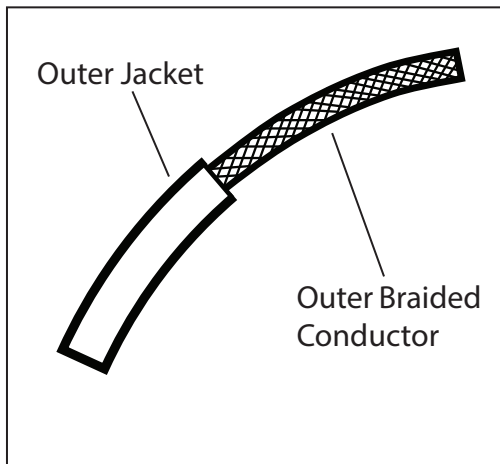

Fig. 1
1. Shut off power to the outlet box (A).
2. Determine the height at which the fixture (F) is to be hung. Insert the steel cable (B) through the lock (C) and adjust to the desired length. To shorten the cable, push the cable up and it will be locked automatically. To lengthen the cable, lift up on the cable and push up on the lock. While keeping the lock depressed, lower the cable to the desired length. Release the lock to set.
3. Use the screwdriver to loosen the slotted set screw (G). Adjust height of cord. Tighten the set screw to set. Reserve extra cord in the canopy (E).
4. Slide cord rings (D) as close to canopy (E) and fixture (F) as possible (Figure 1).
6. Attach the mounting plate (J) to the outlet box (A), secure with outlet box screws (K).
- a. Connect the LED driver's (H) live wire (black) to the live outlet box wire.
- b. Connect the LED driver's (H) neutral wire (white) to the neutral outlet box wire.
- c. Connect the canopy's ground wire (green or uncoated) to the ground outlet box wire. If no ground is present in outlet box, connect canopy's ground wire to the mounting plate (J) using the green screw (included).
8. Attach canopy (E) to the mounting plate (J), secure with screws (L).
9. Attach glass (M) to fixture (F). Secure with set screw (N) using included Allen key.
10. Restore power to the outlet box (A).
(Figure 1)
1. Make a 1" slice along the length of the cord's outer jacket (Fig. 1). **CAUTION: Do not cut through the outer braided conductor.**
2. Carefully strip the outer jacket of the cord and keep the outer braided conductors intact (Fig. 1).